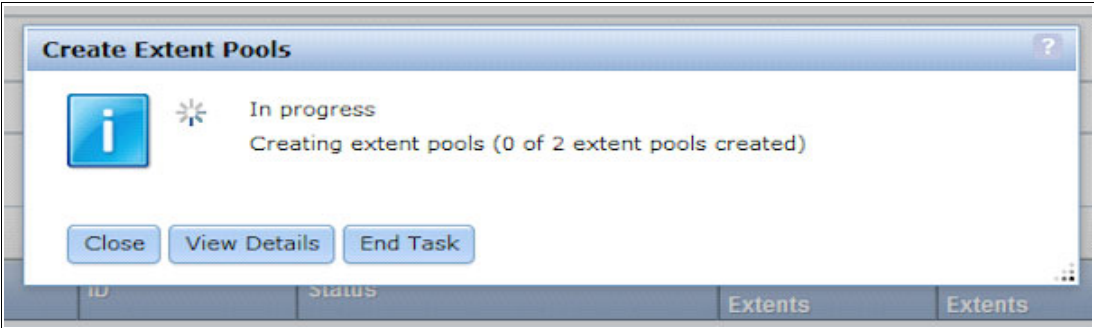

Figure 6-12 Extent pool creation in progress
15.We select **Create All**, wait the progress complete, and the pool with ranks and arrays is created, as shown in Figure 6-12.